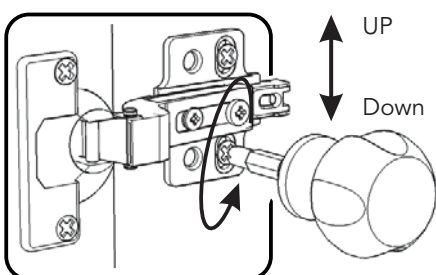

Figure 16
If needed, adjust Doors (P) and (Q) up or down by removing the front Hinge C Screws and loosening slightly the back Hinge C Screws from side panel, adjusting door up or down and re-installing screws. (See Figures 16).